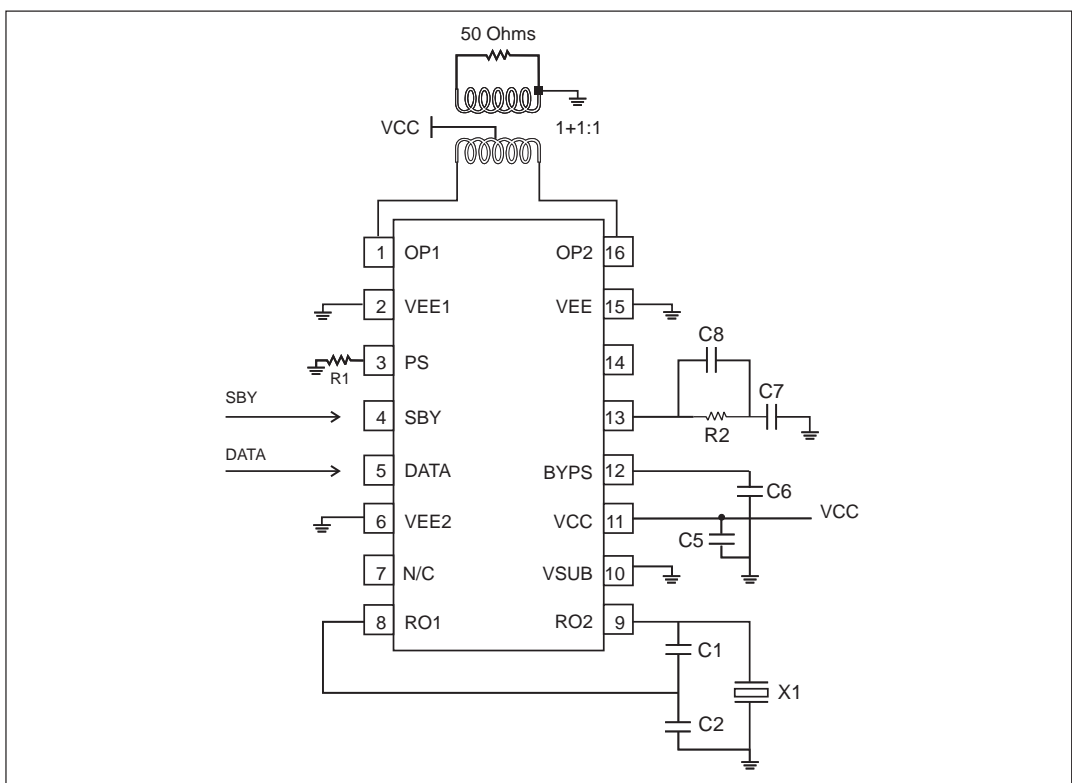

Figure 2: Application Diagram
All specification parameters guaranteed only with the following components (please refer to figure 2 for application circuit):
Figure 2 shows a typical application diagram.
- 3) a PLL synthesizer is designed to operate with an external second order loop filter as shown in figure 2, with component values as shown in Table 6. These values determine the loop bandwidth and dynamics and operation of the loop is not guaranteed for any other values